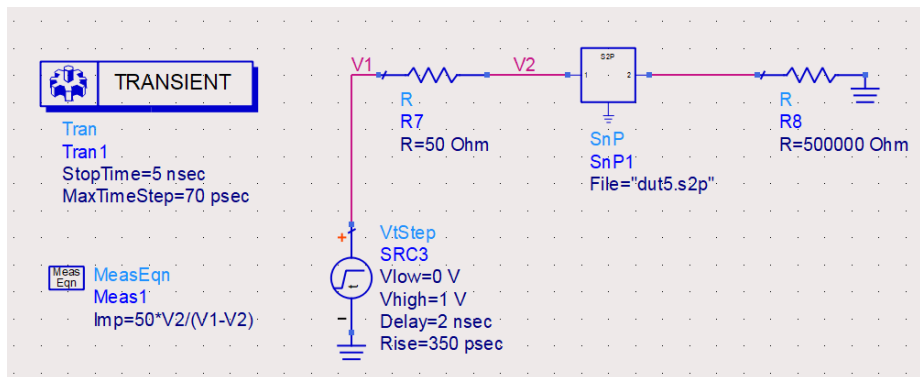

Figure 7: TDR analysis using ADS (slow rise time)
1. In ADS, draw the schematic as shown in Figure 7. The measurement equation ( $MeasEqn$ ) takes the voltage readings and calculates the (time-varying) impedance looking-toward-the-load at "v2" node. The load resembles an open termination.
- Explain how the *MeasEqn* in Figure 7 gives the TDR impedance profile. Prove the formula.